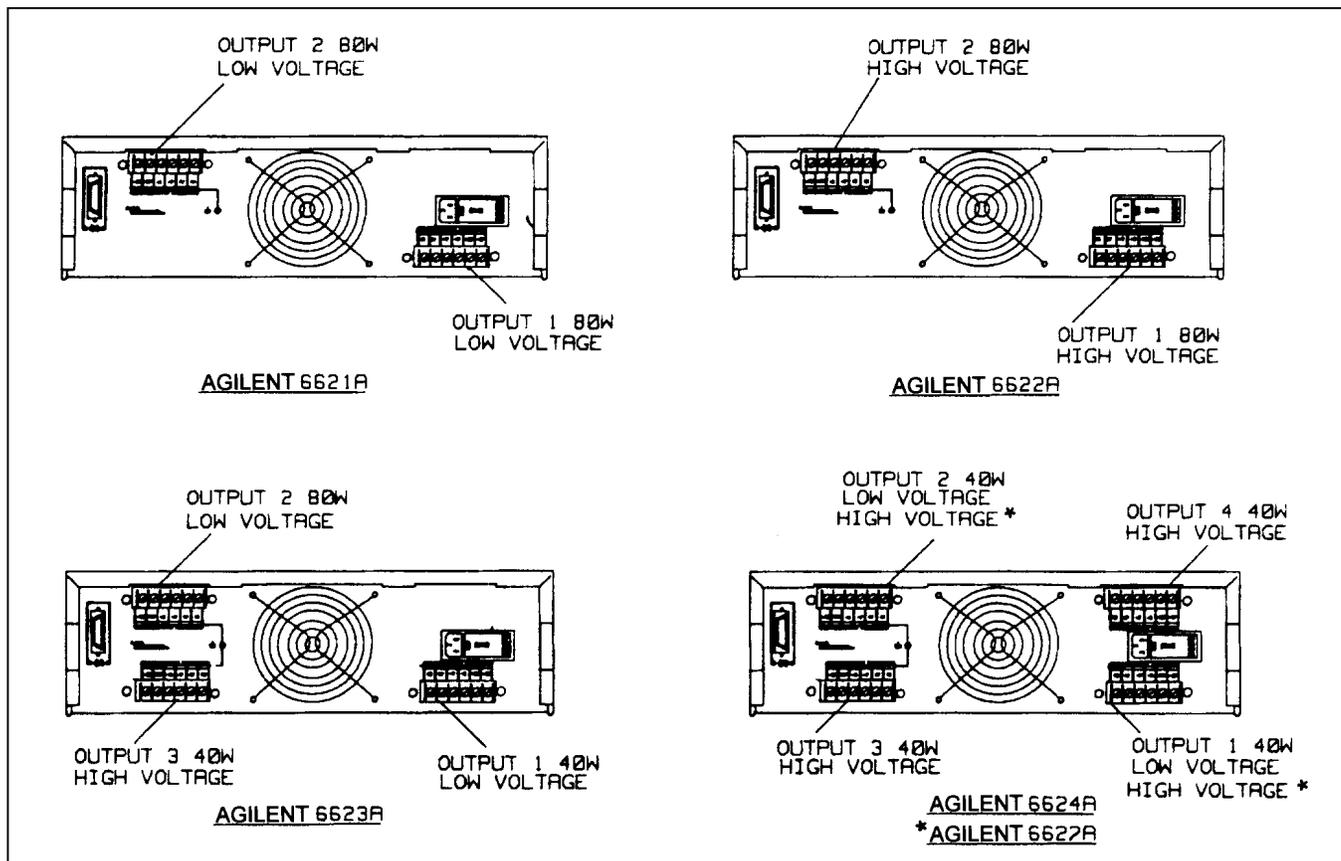

Figure 4-1. Output Connections
Figure 4-1 identifies the output combinations that are available on the power supply. Each output can operate as a constant voltage (CV) or constant current (CC) source over a wide variety of output voltage and current combinations. In addition, each output has an active downprogrammer which operates at currents up to approximately 110% of the maximum positive current rating of the output. This means that each output can actively sink as well as source its maximum rated output current. At voltages below 2.5 V, a downprogramming resistor continues downprogramming until the voltage reaches approximately zero volts.